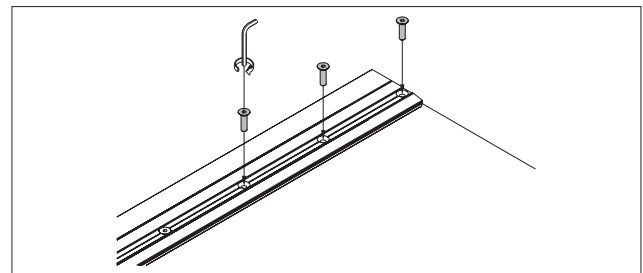

Fig. 10 Tighten the door rail
- Carefully tighten the upper and lower door rail (Fig. 10). Maintain a 15 Nm tightening torque.